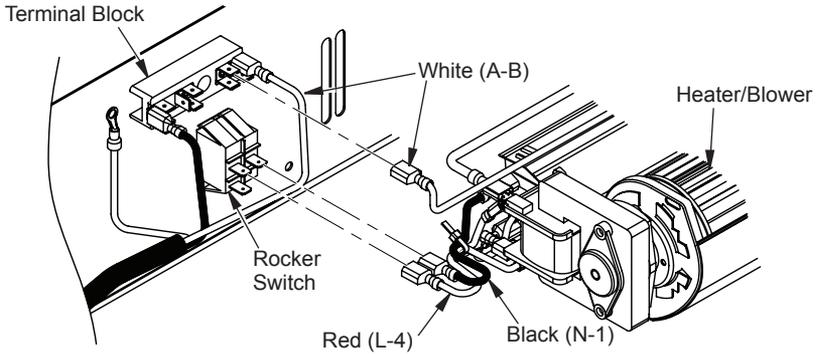

Figure 23 - Connecting Heater Wires
14. Connect black heater wire to terminal marked 'N-1' on heater power switch (see Figure 23, page 13).
15. Connect red heater wire to terminal marked 'L-4' on heater power switch (see Figure 23 or 24, page 13).